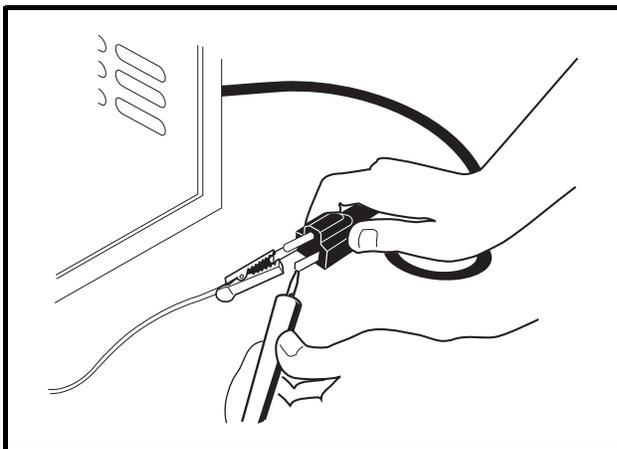

Figure 8-9 AC Cord Test
- 5.3. With relay bypassed, there should be continuity across the AC cord blades (**Figure 8-9, Page 8-15**).